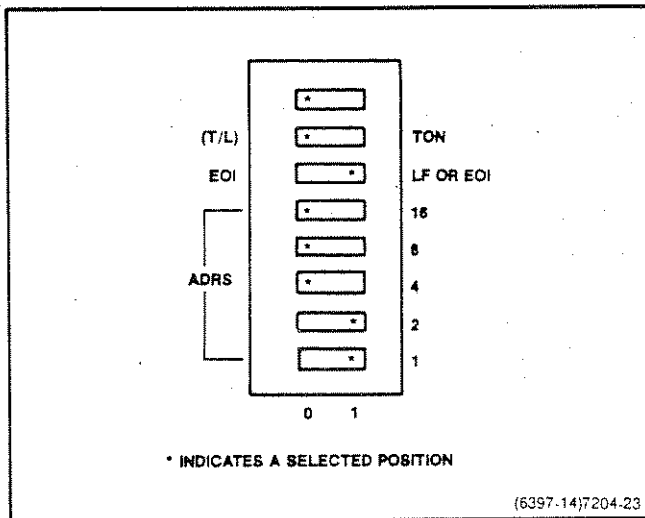

Fig. 4-2 GPIB parameter switch.
The GPIB operating mode (talker or talker listener), address (1-30), and message terminator (LF or LF/EOI) selections are made with an 8-section binary switch on the instruments rear panel (Fig. 4-2).
The fourth through eighth sections set the instruments address in binary format. The address is determined by totaling the values associated with the selected one (1) positions. For example the switch in Fig. 4-2 has the one (1) position selected for the values 1 and 2 giving a total of 3, which represents a primary GPIB address of 3.